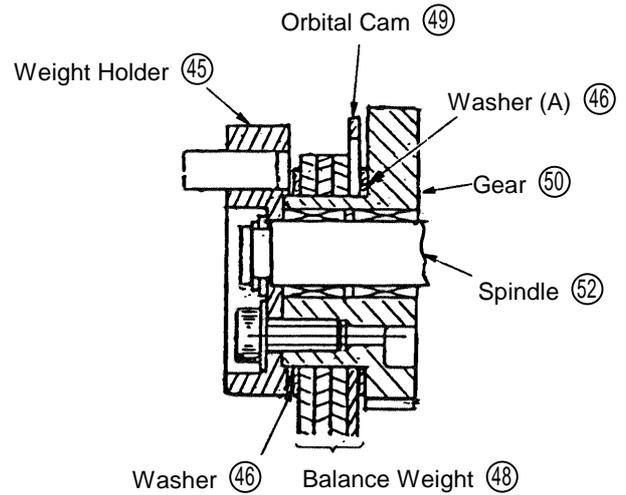

Fig. 17
(4) Carefully ensure that the two Washers (A) (46), the Orbital Cam (49), and the three Balance Weights (48) are assembled as shown in Fig. 17.